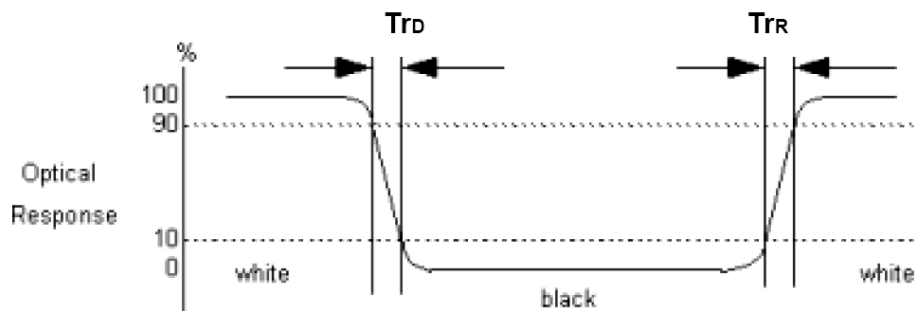

Fig.4-3 Response time
4. Response time is the time required for the display to transition from white(L255) to black(L0) (Decay Time, $Tr_D = T_f$) and from black(L0) to white(L255) (Rise Time, $Tr_R = T_r$). For additional information see Fig. 4-3.